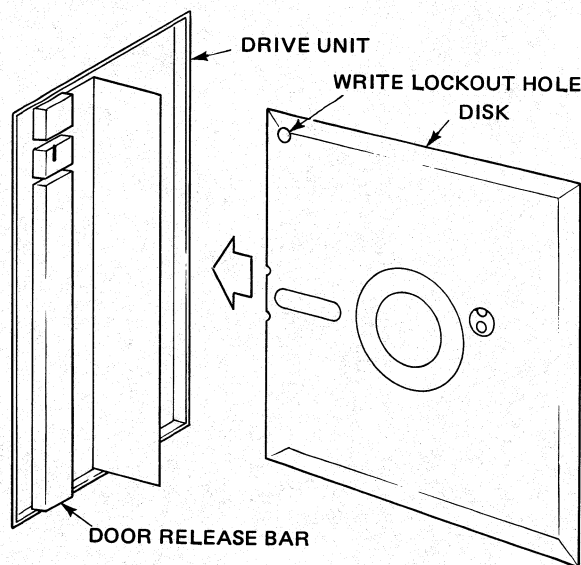

Figure 4-2. BSM Disk Insertion
The BSM Subsystem provides a "Write inhibit facility". To write inhibit a BSM Disk, remove the tape that is covering the Write Lockout Hole (see figure 4-2). To subsequently write enable a BSM Disk that has been inhibited in this manner, cover the Write Lockout Hole with a label or tape that does not allow light to pass through the hole.
3. Insert the Disk as shown in figure 4-2.